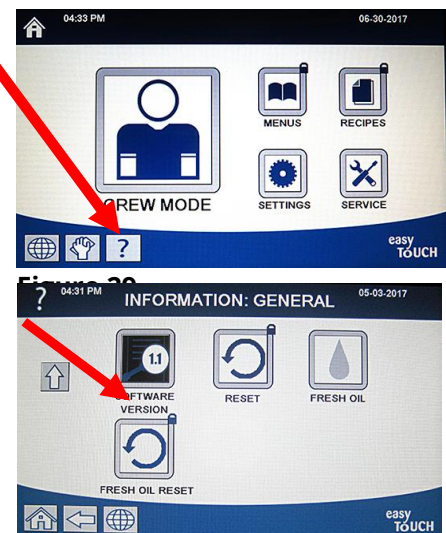

Figure 31
5. Press the software version button (see Figure 31).